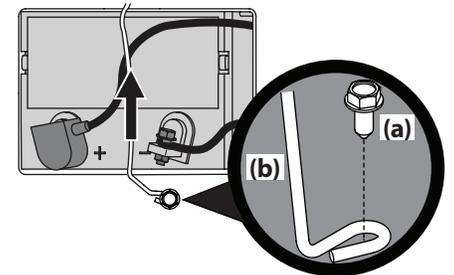

Figure 4-11
- Remove the hex washer screw (a) securing the battery hold-down bracket (b) to the frame. Then flip the battery hold-down bracket (b) up to free the battery. See Figure 4-11.